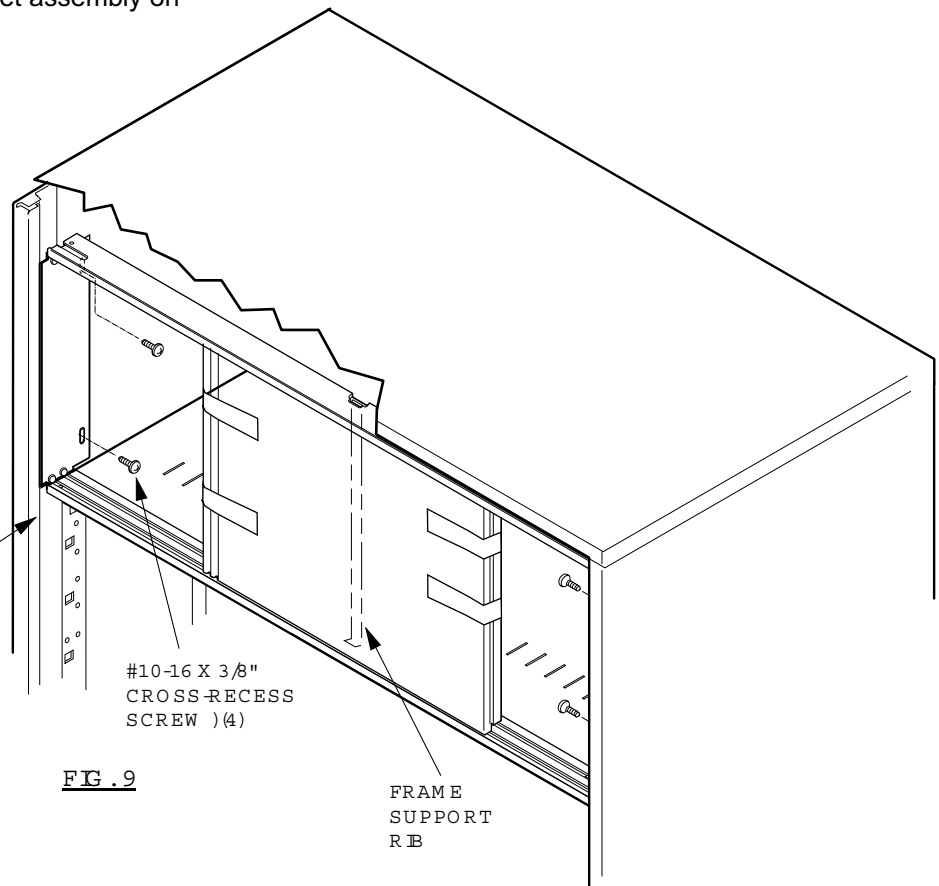

FIG. 9
2. **Lock clip(s) removal** (for locking file units only): Open the drawer located below the binder storage module, and remove #10-24 x 1/2" screw which attaches clip to locking bar channel. Slide clip down from inside the hole in the door track, and remove clip from cabinet. Repeat this process on opposite side of cabinet. Do not discard, clips and screws will be re-installed later (Fig. 9 A).
3. Slide doors to center of door frame, tape doors together, and to the frame support rib to prevent door(s) shifting during removal. Remove four (4) #10-16 x 3/8" cross-recess screws which attach door frame to cabinet. Do not discard, screws will be re-used (Fig. 9).
1. Slide doors to center of door frame, and tape doors together and to the frame support rib to prevent door(s) shifting during installation (Fig. 9).
3. Align holes in the door/frame sides with holes in shelf liners and mounting holes in cabinet. Using four (4) #10-16 x 3/8" cross-recess screws (2 per side), attach frame to cabinet (Fig. 9).